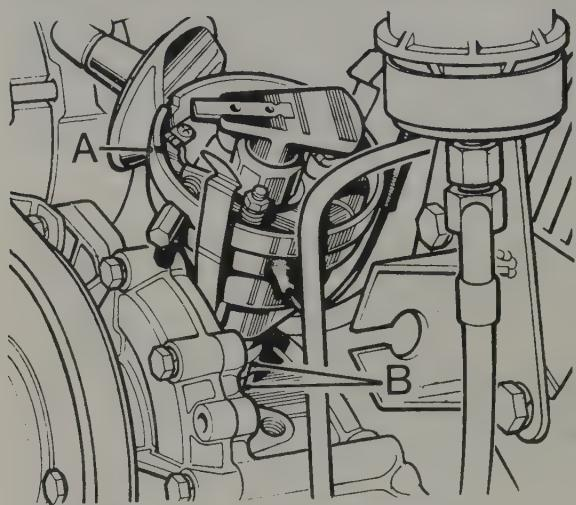

Fig. 4.2. Marks to ensure correct replacement
- 5 Now mark the distributor body in relation to the centre line of the rotor arm. (Fig. 4.2).